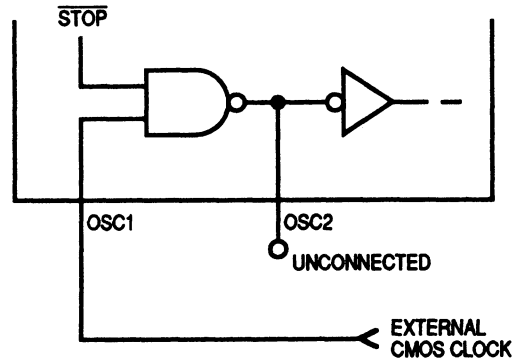

Figure 2-3. External Clock Source Connections
- An external clock signal connected to OSC1 (see Figure 2-3)
An external clock from another CMOS-compatible device can be connected to the OSC1 input, with the OSC2 input not connected, as shown in Figure 2-3. To use an external clock, the crystal/ceramic resonator mask option should be specified when ordering the MCU.